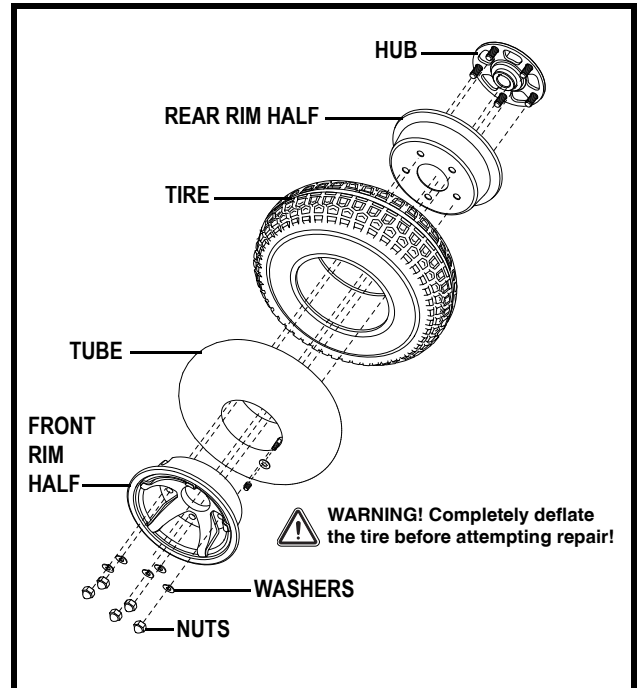

Figure 23. Drive Wheel Assembly
6. Remove the nuts and washers and separate the rim halves. See figure 23.